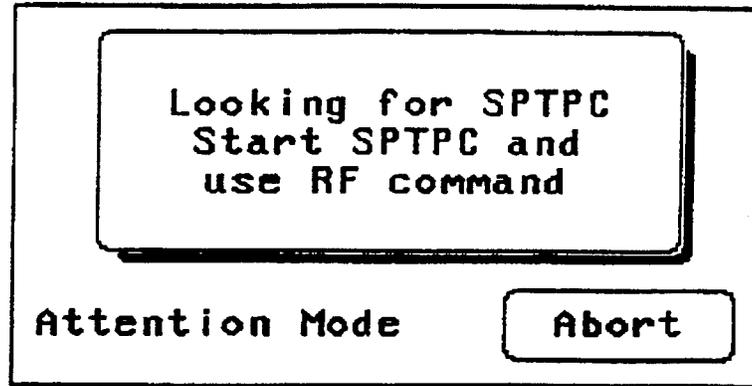

Figure 3-17. Looking for SPTPC Screen.
36. Instruct the Analyzer to send data to the PC. To do this, press the REVIEW box on the Analyzer's Introduction screen (see Figure 3-4). Then from the Review screen press the SEND DATA box (see Figure 3-13). The Analyzer will then display the screen shown in Figure 3-17.